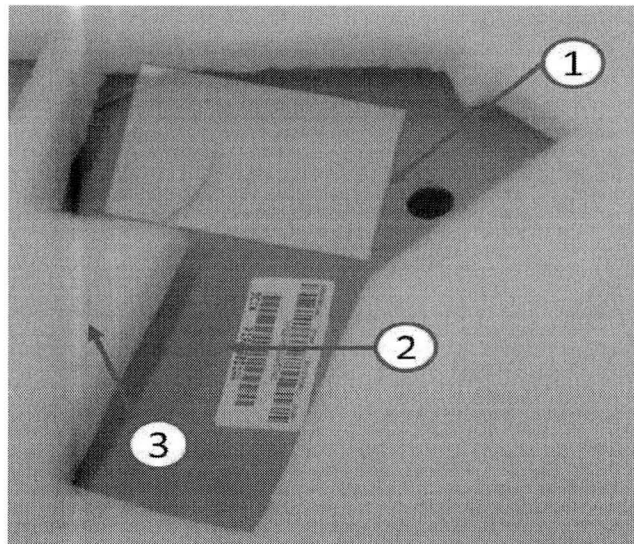

Fig. 7 Door Panel Preparation
8. Clean the surface area (1) of both door trim panels to be bonded with isopropyl alcohol (Fig. 7).
9. Once the alcohol has evaporated apply 3M 4298 adhesion promoter or equivalent to the surface area (1) where the dual lock adhesive backer will bond (Fig. 7).